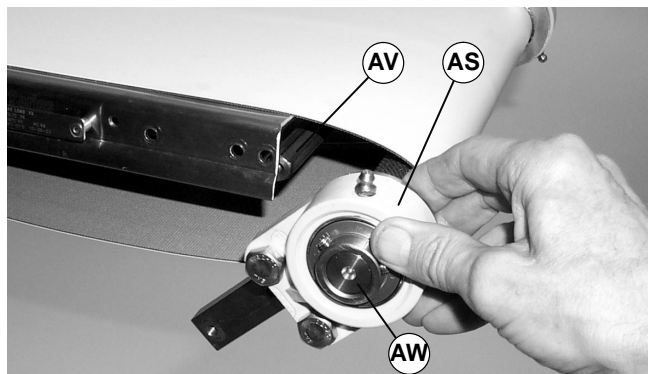

Figure 30
3. Install bearing and head plate assembly (AS of Figure 30) onto drive spindle (AW).